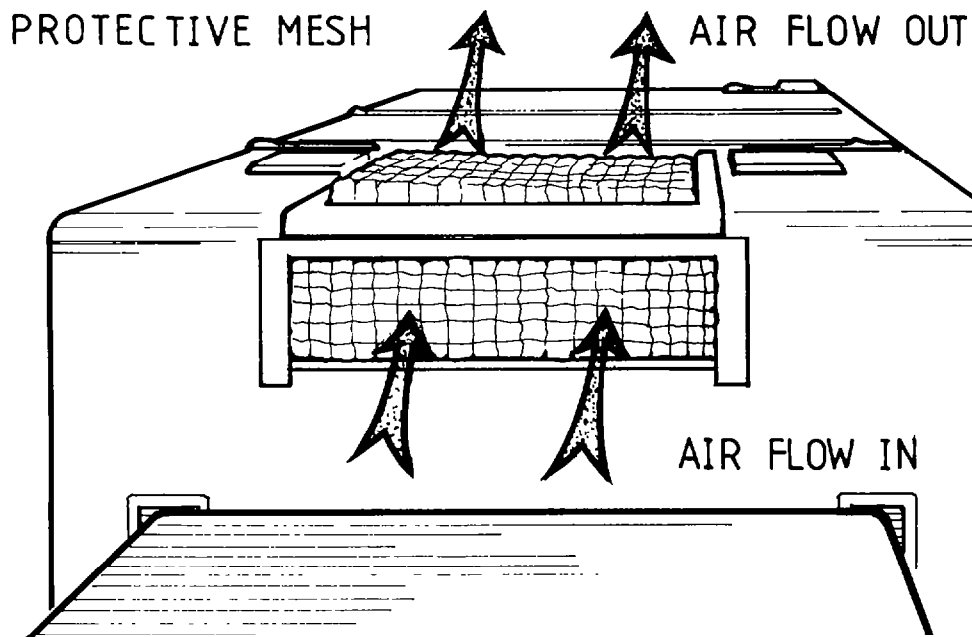

Figure 2 - Direction of Air Flow for Condenser Fan
- i. Check the direction of air flow with the fans switched ON (air should be sucked through the condenser and blowing out through the fans and over the roof). See Figure 2.